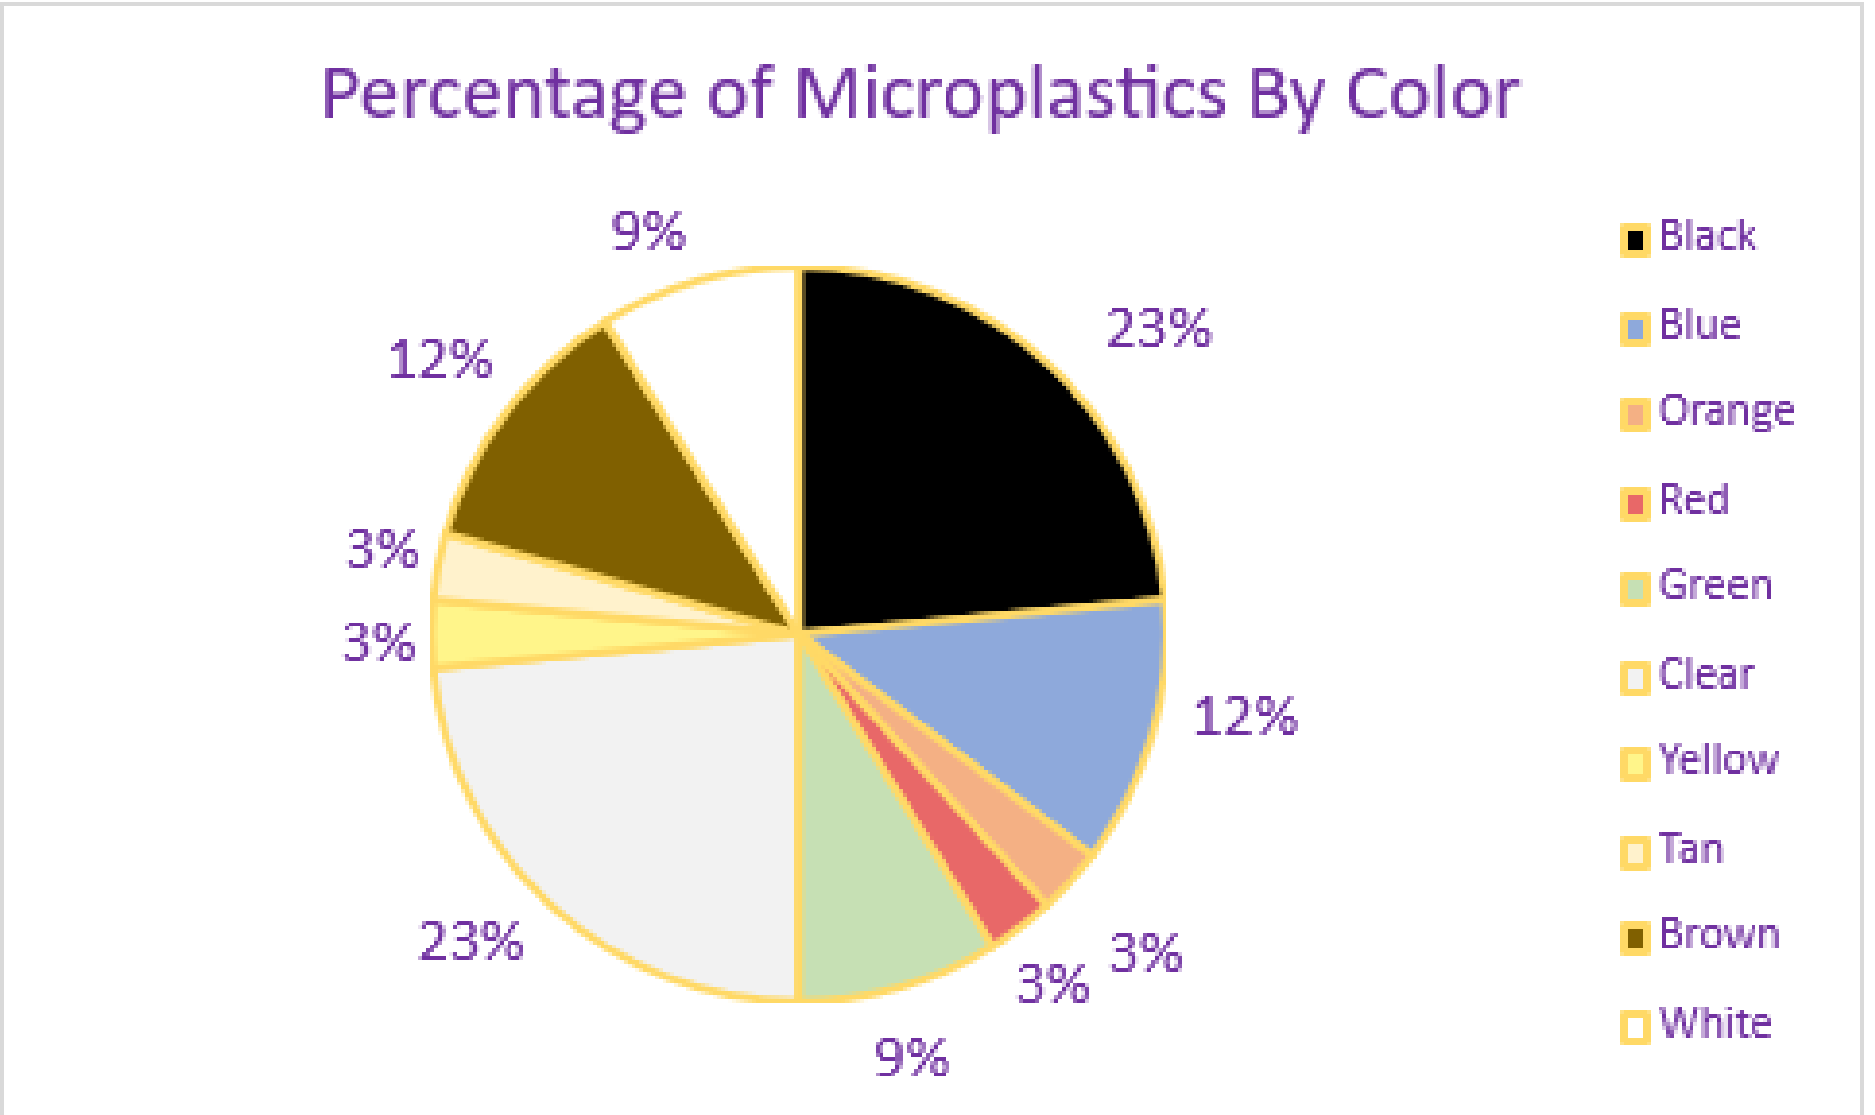

Figure 4. Distribution of microplastic colors represented as a percentage.
- Most of the microplastics were clear (23%) and black (23%) with a smaller percentage being other colors (Figure 4.)